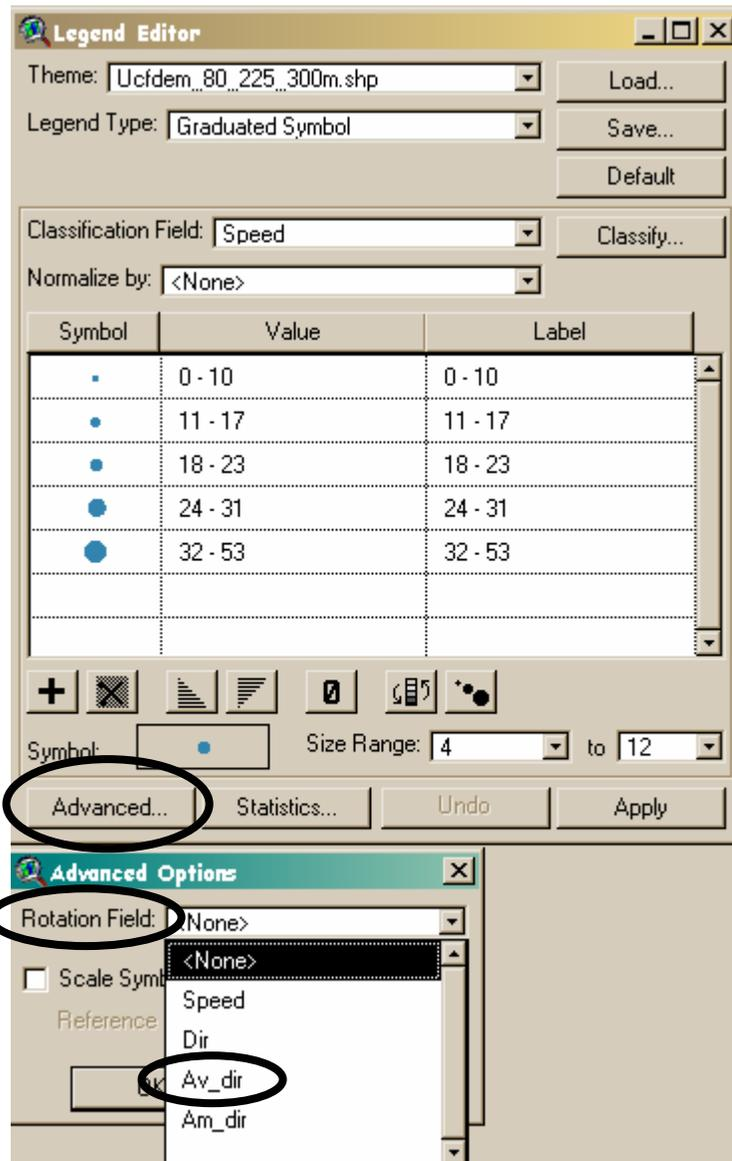

Figure 4. Legend Editor dialog box showing Classification Field selection for display in ArcView.
4. Select **Advanced Tab** and in **Rotation Field** select **Av_dir** from the available options and **OK** (Figure4).